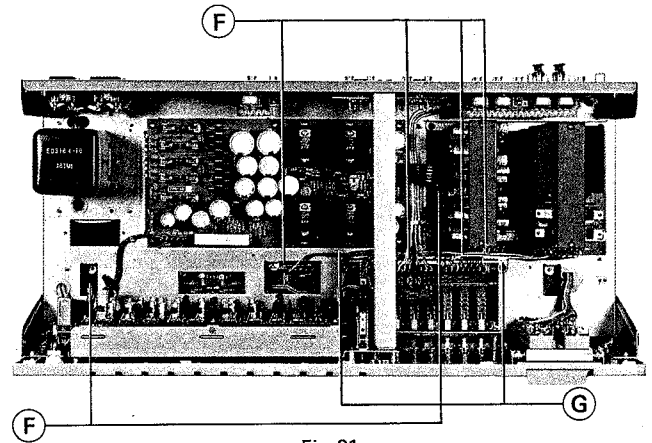
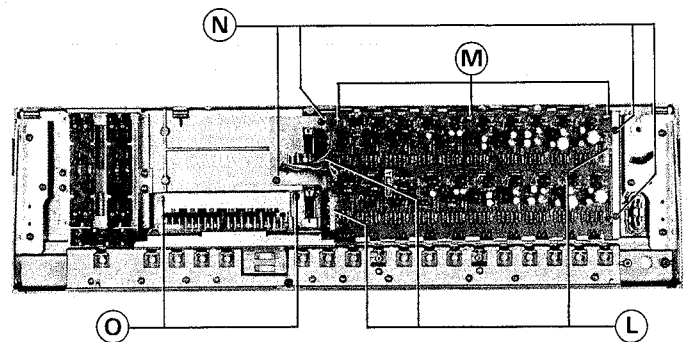

Fig. 31
Fig. 32
- 2) Remove 4 screws (N) indicated on Fig. 32 and remove Bracket with Front Panel.
- 2) Remove 4 connectors (F) indicated on Fig. 31.
- 3) Remove 2 screws (G) indicated on Fig. 31 and remove 2 screws (O) indicated on Fig. 32.
- 1) Remove 3 connectors (L) indicated on Fig. 32.
- 2) Remove 3 screws (M) indicated on Fig. 32, then will be serviceable.